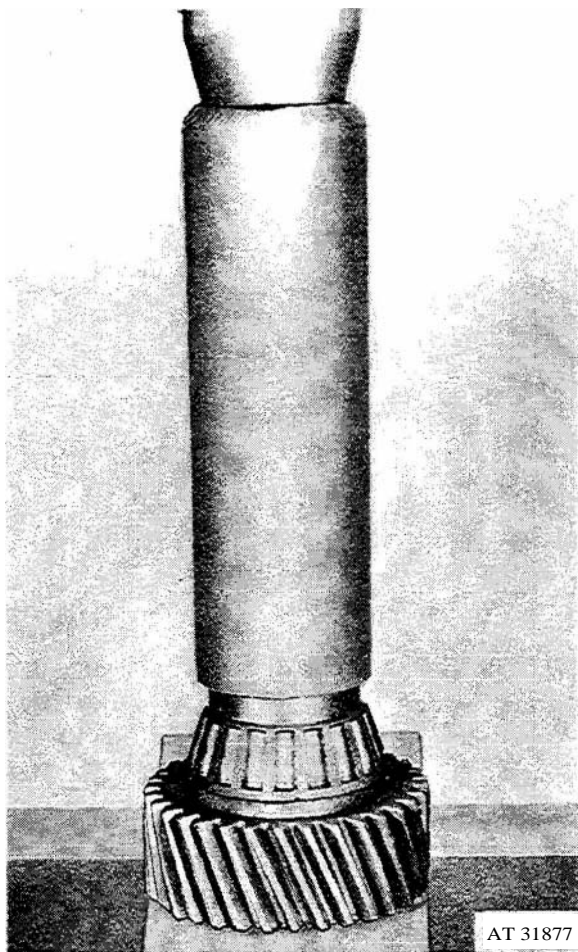

Figure 3-81. Pressing bearing on output shaft.
(24) Press bearing (9) on output shaft (8) as shown in figure 3-81.